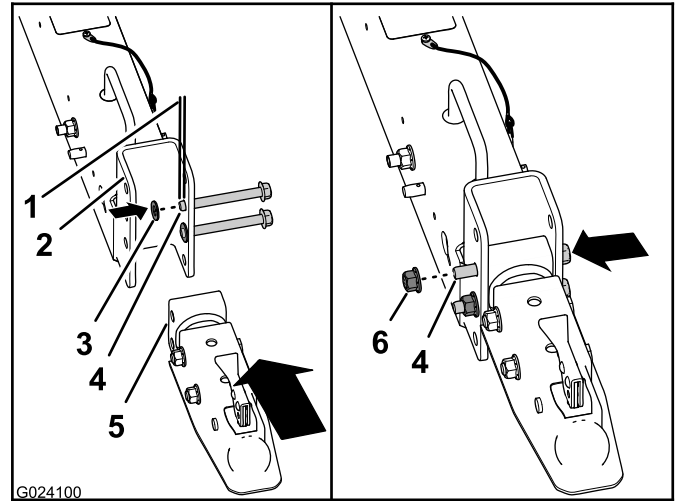

Figure 3
- Partially insert the 2 flanged-head bolt (1/2 x 4-1/2 inch) through the holes in the mounting plate with 3.1 mm (1/8 inch) of the threads projecting to the inside of the bracket (Figure 3).
- Slip a washer (1/2 inch) over the threaded end of each of the bolts (Figure 3).
- Align the holes in the hitch assembly with the holes in the mounting plate (Figure 3).
- Fully insert the bolts through the hitch, washers, and plate (Figure 3).
- Thread the 2 locknuts (1/2 inch) into the bolts (Figure 3) and torque them to 102 N-m (75 ft-lb).